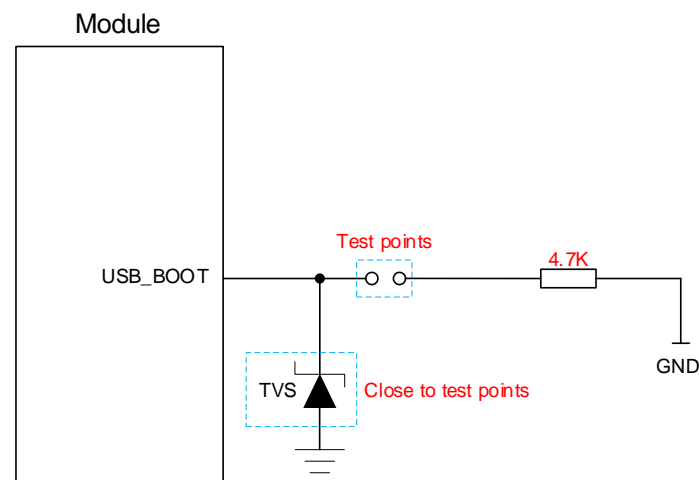

Figure 29: Reference Circuit of USB_BOOT Interface
2. When using MCU to control module to enter the emergency download mode, please follow the above timing sequence. Directly connect the test points as shown in **Figure 29** can manually force the module to enter download mode.